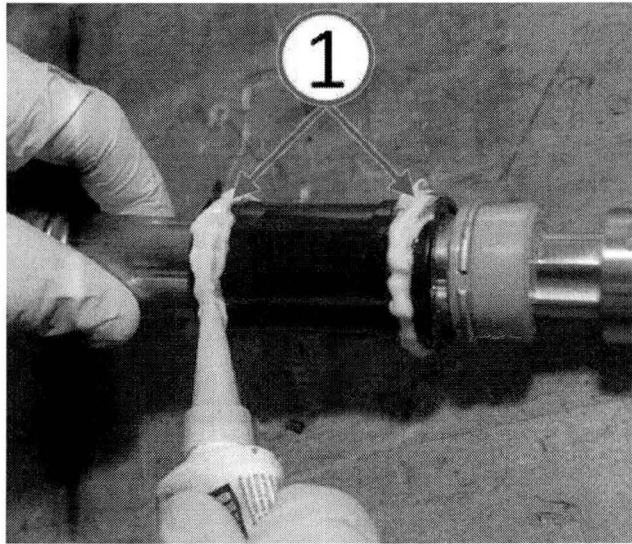

Fig. 6 Apply White Lithium To Inner Bearing Sleeve
6. Apply white lithium grease to the contact surface at each end of the inner bearing sleeve (Fig. 6).